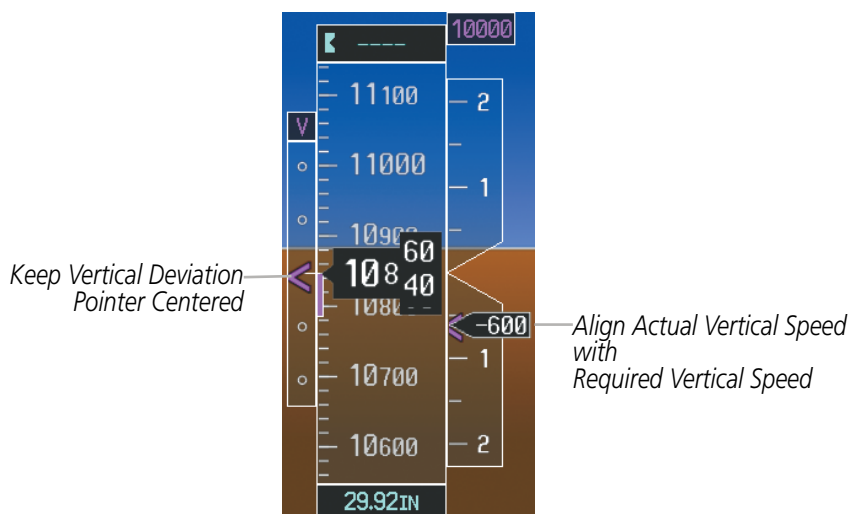

Figure 5-130 VDI & RVSI Showing Correctly Established Descent
- 16) Upon reaching TOD, a descent vertical speed is established by placing the VSI pointer in line with the RVSI as shown in Figure 5-130.